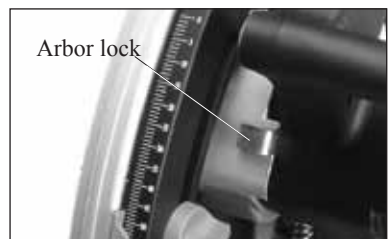

Fig.4
1. Push in the blade lock lever and rotate the arbor by hand until the lock engages the arbor. Loosen the blade retaining bolt securely with the provided wrench and release the arbor lock. See fig.4